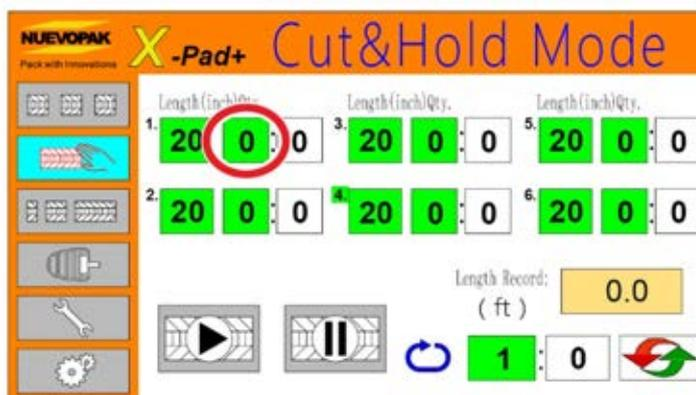

Figure 36 Change Pre-Set Output Quantity - Cut & Hold Mode
2. Change the pre-set output length (refer to Figure 36).